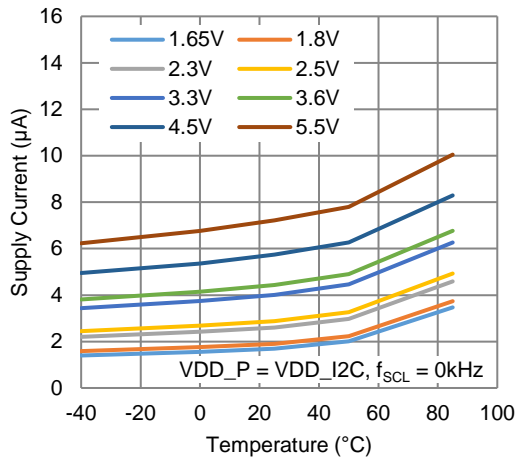

**Figure 1. I2C Compatible Interface Timing**
**I2C-Compatible Timing Specifications (SCL, SDA), see Figure 1**